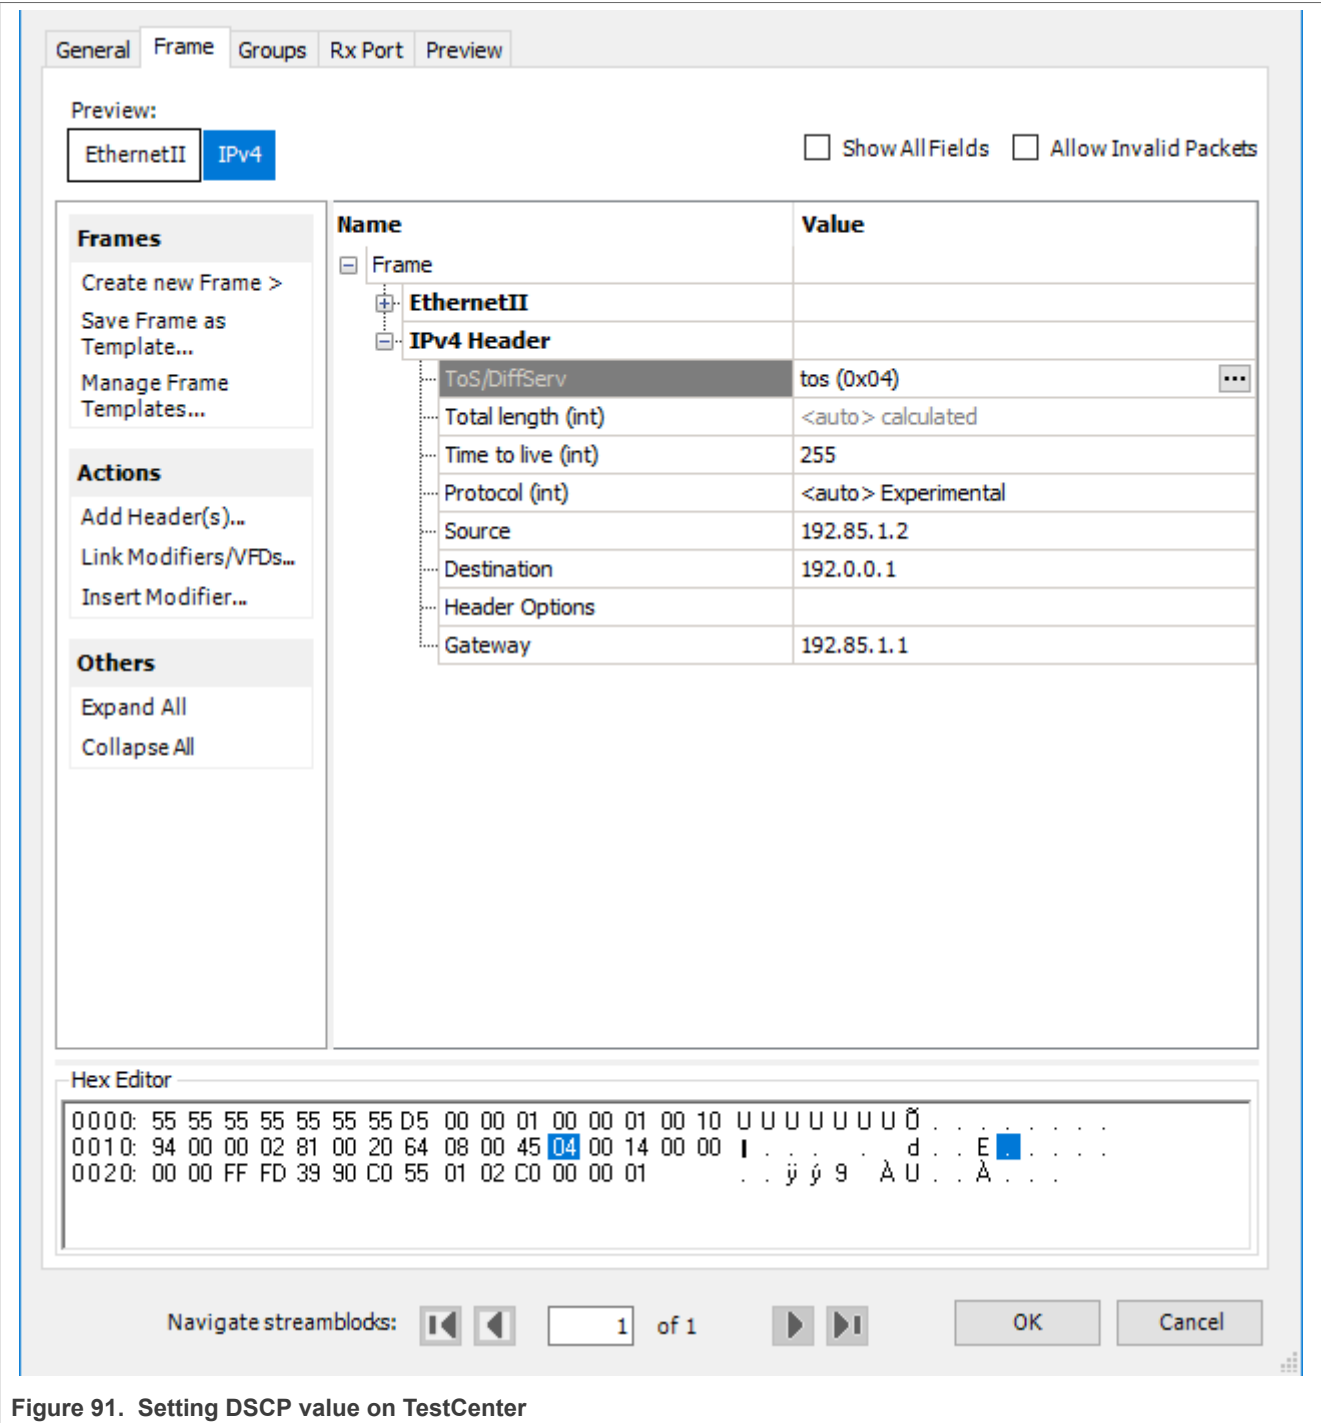

Figure 91. Setting DSCP value on TestCenter
2. Set the DSCP value on TestCenter. DSCP value is the upper six bits of ToS in IP header, set the DSCP value on TestCenter as shown in Figure 91.